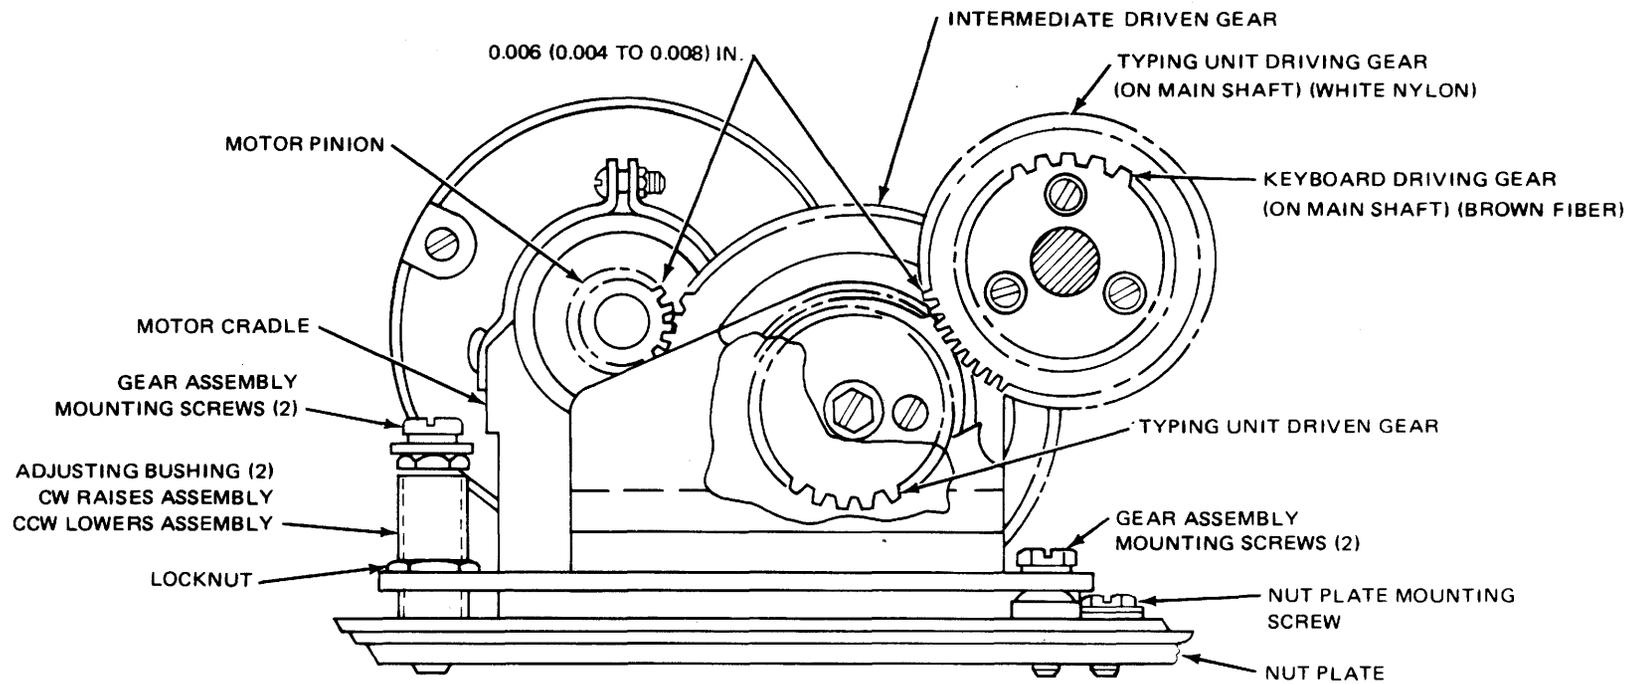

Figure 6-12. Intermediate Gear Assembly.
6-16. Keyboard Intermediate Gear Assembly Adjustment. To adjust keyboard intermediate gear assembly, see figure 6-12, and proceed as follows:
b. Loosen four gear assembly mounting screws (see figure 6-12).
f. Move assembly fore or aft, and adjust height to obtain backlash of 0.006 (0.004 to 0.008) inch between motor pinion and intermediate drive gear, and between typing unit driven gear and keyboard driving gear (see figure 6-12).